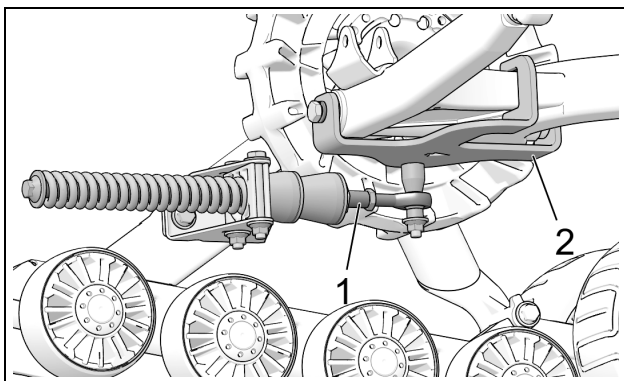

Figure 15
- Stabilizing arm (1) must be attached to the rear anchor bracket (2) installed on the vehicle. See Figure 15.
*NOTE: Actual Rear Anchor bracket (2) installed on vehicle may differ from the one in the illustration.*